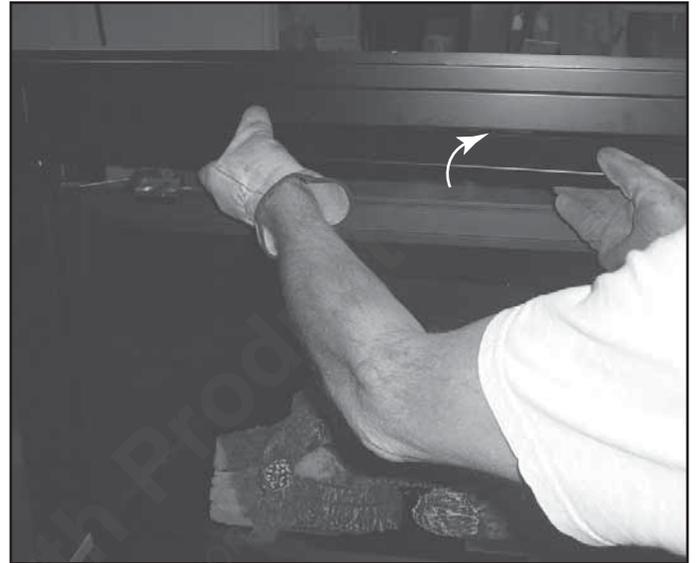

Figure 15.10 Installing Hood
- Tighten the four screws. See Figure 15.10.